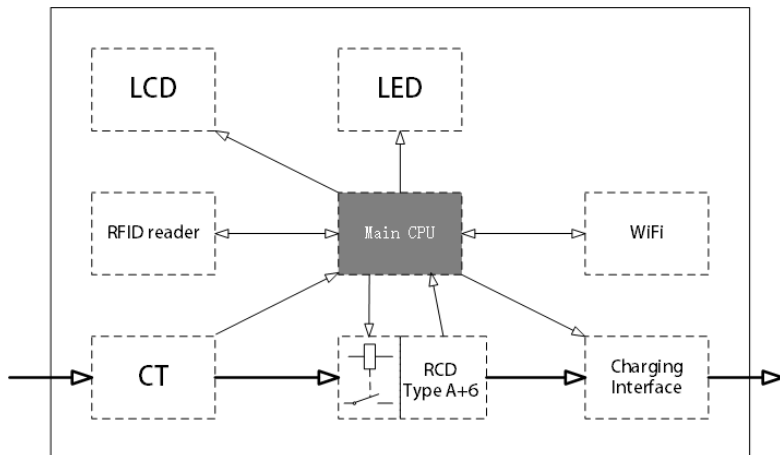

Fig. 4-2 Block diagram of products
- The block diagram of AC EV charging station is shown as Fig. 4-2.